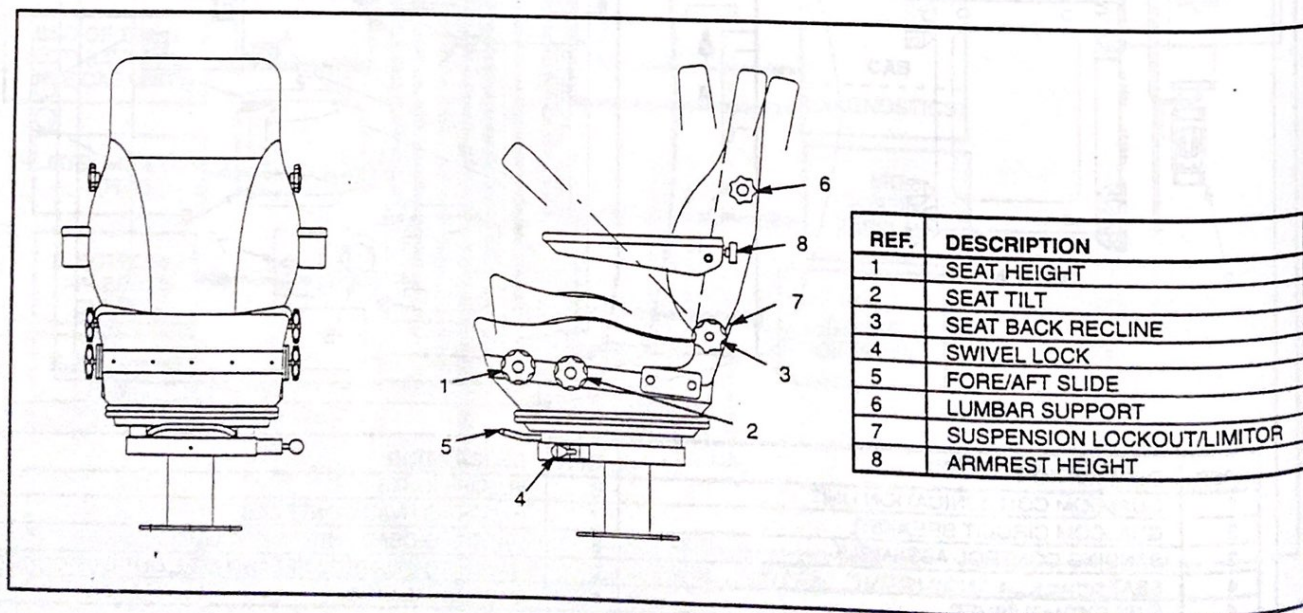

FIG. 4. SEAT ADJUSTMENT. E-42715.
Three seats (4), engineer, helper and center positions, are provided in the operator's cab. Each seat is adjustable as follows (refer to Fig. 4): Seat Height (1) increases while turning knob forward. Lifting weight off seat makes adjustment easier. Seat Tilt (2). Seat Back Recline (3). Swivel Lock (4). Fore/Aft Slide (5) adjusts by raising handle. Lumbar Support (6). Suspension Lockout/Limitor (7) has three positions. The right position allows full suspension range. The middle position limits to one-half the vertical suspension range, and the left position locks out the suspension. To engage the lockout, seat must be in the middle height position. Arm Rest Height (8).